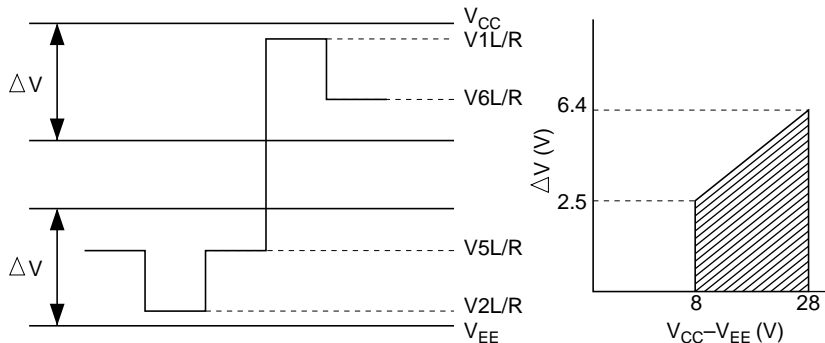

Figure 21 Relationship between Driver Output Waveform
14. $V_{1L/R}$ and $V_{6L/R}$ should be near the V_{CC} level, and $V_{5L/R}$ and $V_{2L/R}$ should be near the V_{EE} level. All these voltage pairs should be separated by less than ΔV , which is the range within which R_{ON} , the LCD drive circuits' output impedance is stable. Note that ΔV depend on power supply voltages $V_{CC}-V_{EE}$. See Figure 21.